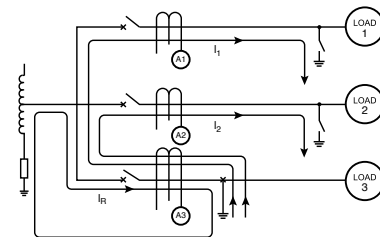

FIGURE 10
- A single-line diagram of a three-feeder, resistance grounded system with a fault on feeder 3 is shown in **Figure 10**.